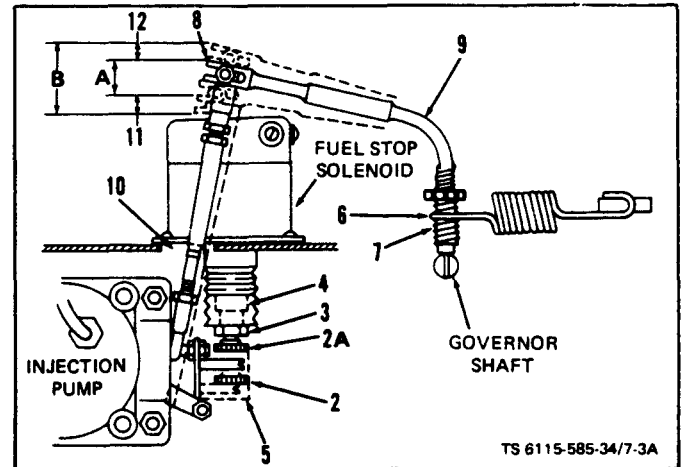

Figure 7-3.1. Governor Linkage Adjustment
f. Preliminary Linkage Adjustment (figure 7-3.1). The following adjustments shall be made before starting the engine if the linkage was replaced.
(1) With link (1) compressed, adjust length between ball joints to 5-1/2 in.
(2) Set solenoid bumper screw to shut off position, dotted line (2), by loosening locknut (3) on solenoid plunger (4). With plunger down, adjust bumper screw to push control unit post down, dotted line (5), to maximum shutoff position.
(3) Hook governor spring (6) in the mid-range of sensitivity ratchet (7).
(4) Manually move governor arm and linkage to check for interference.
(5) Adjust position of upper ball joint in slot (8) on governor arm (9) so link (1) does not bind against fuel stop solenoid or hole (10). A slight contact of link to bottom of solenoid is permissible but only at shut down. The fuel control unit should move up to position (2A) when solenoid is energized with start switch.
h. Speed Droop Adjustment (figure 7-3.1). Droop between no load and rated load is adjusted by rotating ratchet (7). Clockwise rotation decreases droop; counterclockwise rotation increases droop. Start engine and with no load, adjust speed control for rated frequency. While observing the set fre-